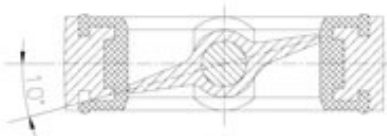

Fig 2.2 Disc in 100 open position
4.2 All wrapping and protection on the valves should not be removed until the valve is ready for installation. All valves are delivered with disc in 100 open position (Refer to figure 2.2).